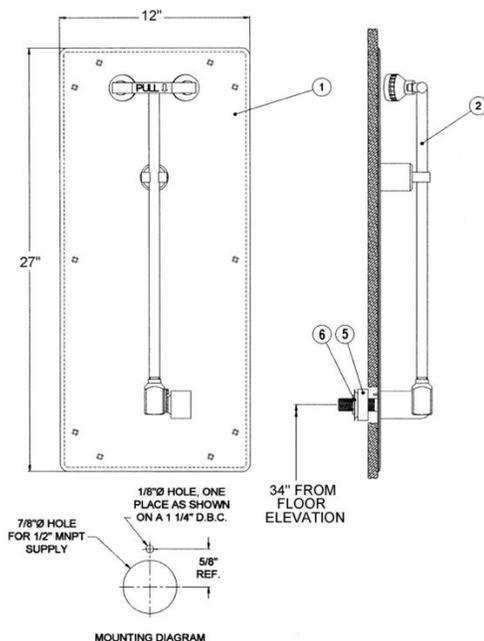

FIGURE 3
- 4) See Figure 1 below for wall opening requirements for recessed cabinet models. There should be at least 4" clearance beyond opening to accommodate cabinet mounting flange. See Figures 3 and 4 for surface wall clearance requirements for surface wall mount models